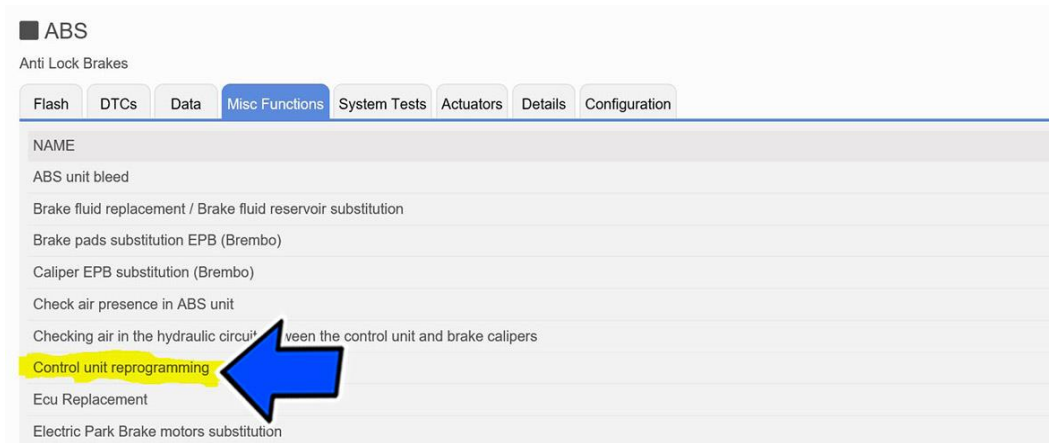

Figure 18 - Control Unit Reprogramming
17. From the ABS “Misc. Functions” tab, select and run the “Control Unit Reprogramming” routine (Figure 18).